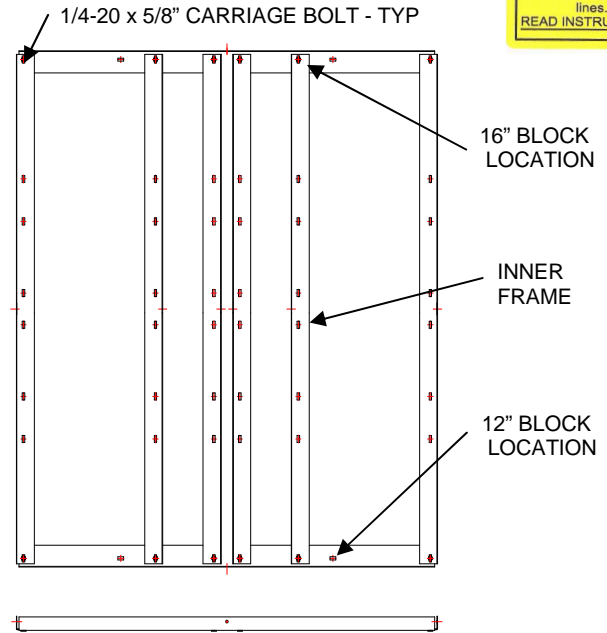

Figure 1 (Top & Side View)
1- Assemble Base Frames using twelve (12) 1/4-20x5/8" carriage Bolts, Lock washers and Hex Nuts. **Make sure to assemble the Bolts with the Heads on the under-side of the frame.** See Figure 1 for inner frame location based on using 8"x16" or 12"x12" concrete blocks.